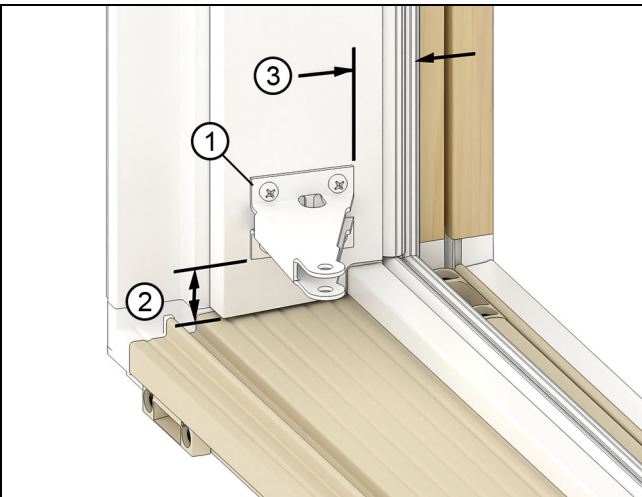

Figure 19 (door panel not shown for illustrative purposes)
1. Position the jamb bracket in the lower inside corner of the door frame on the side jamb 1 1/4" (32) above the sill and 1 1/8" (29) from the face of the primary door. Mark and drill four 1/8" (3) pilot holes. See Figure 19 and Figure 19.